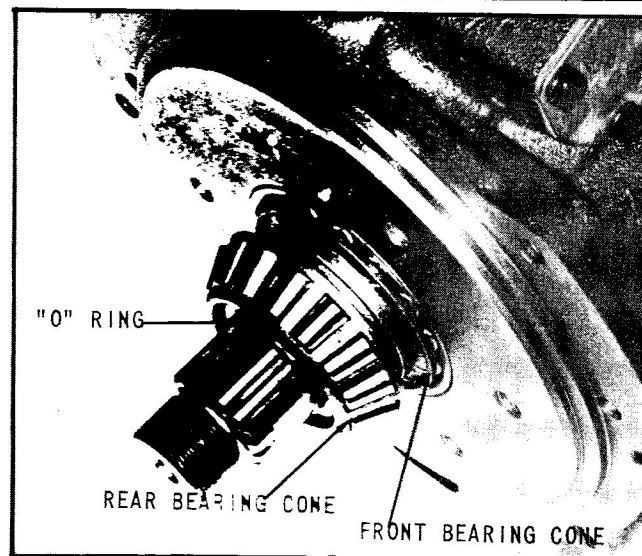

Fig. 42 Installed Bearings on Output Shaft
5. Slide the two bearing cones and inner races over rear of output shaft and against spacer, (Fig. 42).
6. Install the rubber "O" ring in groove of output shaft just behind the rear bearing cone, (Fig. 42).